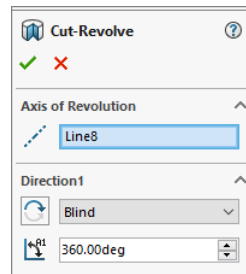

**Fig. 23**
Step 10. Starting from the Origin , sketch a horizontal centerline through Wheel, **Fig. 23.**